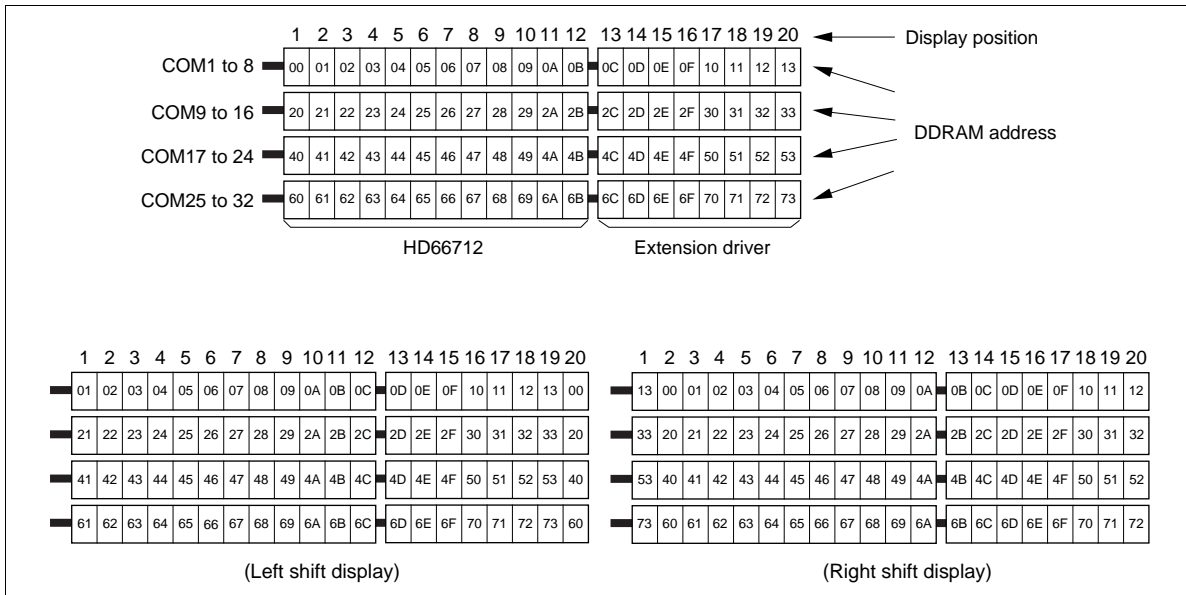

Figure 9 4-Line by 20-Character Display
- Case 2: Figure 9 shows the case where the EXT pin is fixed high and the HD66712 and the 40-output extension driver are used to extend the number of display characters. When a display shift is performed, the DDRAM addresses shift as shown.